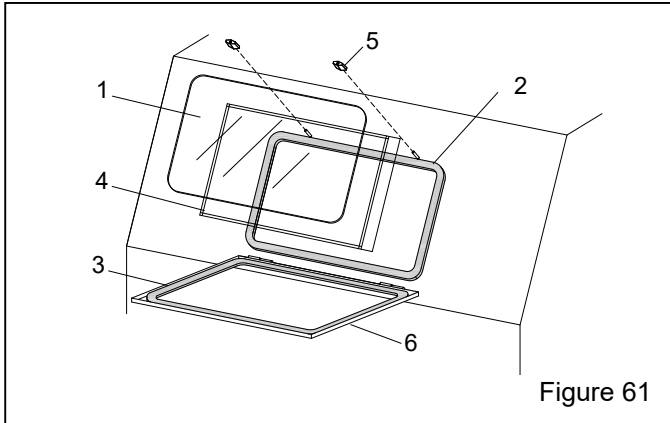

Figure 61
10.4 View-Window Assembly – Figure 61